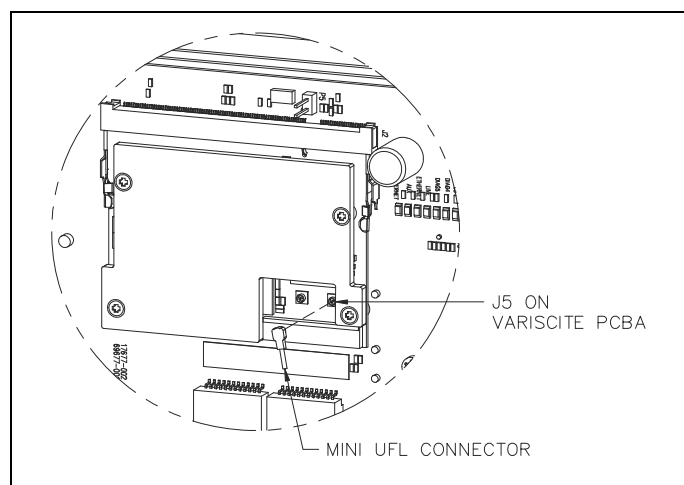

Figure 1. Mini UFL Connector at J5 on Variscite PCBA
1. Unplug the mini UFL connector from J5 on the Variscite PCBA (see Figure 1).
6. Plug the mini UFL connector of the coaxial cable assembly into J5 on the Variscite PCBA (see Figure 1).